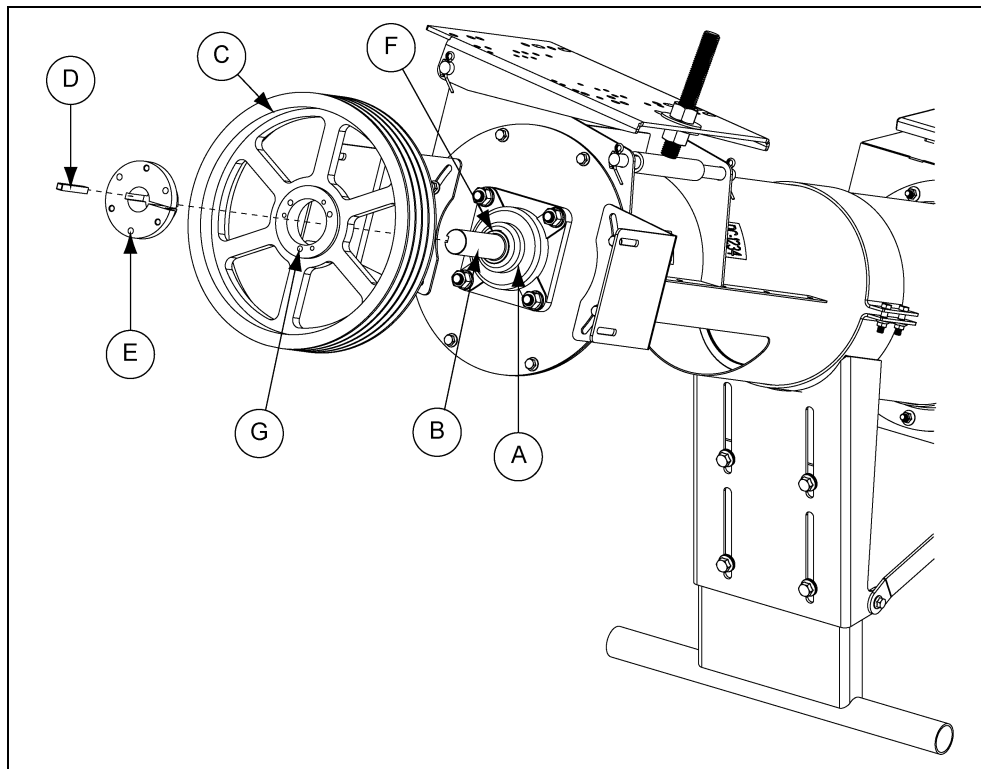

Figure 4H
1. Place and position the key (D) into the keyway located on the drive shaft (B).
2. Place the pulley (C) onto the drive shaft (B) with the set screw side of the pulley (C) facing away from the bearing plate. (See Figure 4H.) Position the pulley so that it is as close to the lock collar (F) as possible, but without touching it.
3. Once the pulley is appropriately positioned, tighten the set screw (G) with a hex head wrench to secure it to the drive shaft (B). (See Figure 4H.)